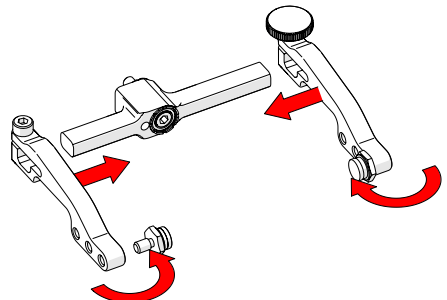

Fig. 122 - Attach arms & move buttons
5. Place the pivot buttons on the inside of the probe holder arms (Fig. 122) using a 3/8 in wrench (Fig. 44).